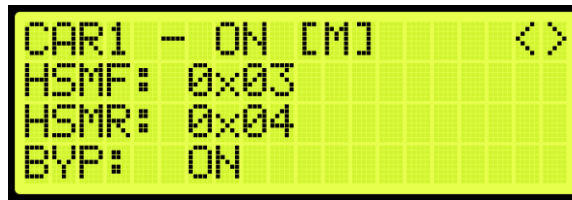

Figure 274: Front and Rear Hall Security Mask Status
11. From the Front and Rear Hall Security Mask Status (See Figure 274), press the right button.